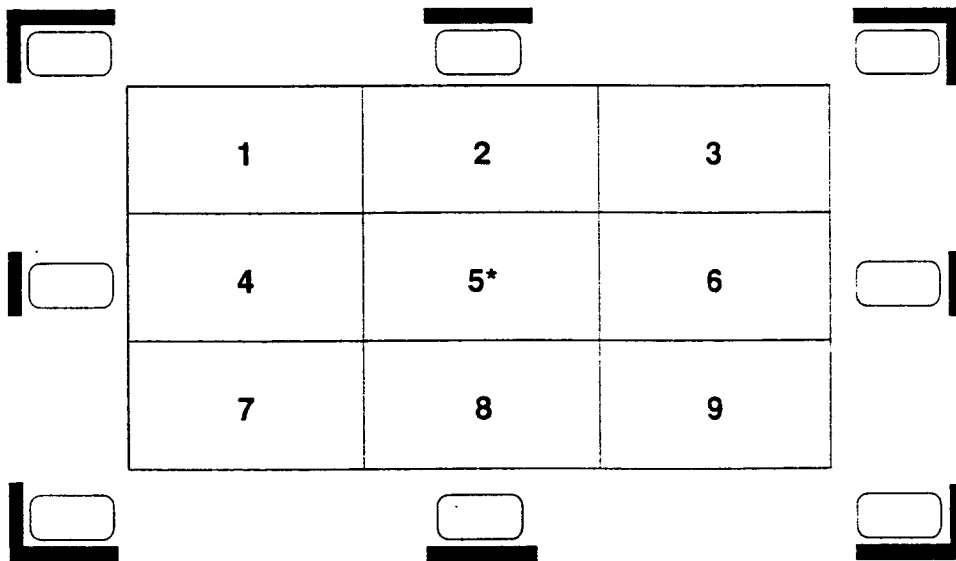

FIGURE D-1.
- STEP 1. Divide the white field pattern into 9 zones. Refer to Figure D-1. Note the area selection keys and the affected zone.
- STEP 5. GREEN ONLY! Measure and record the readings of each zone indicated in Figure D-1.
- STEP 6. Set zone 5 (Figure D-1) to the lowest reading (recorded above), with the [CONT] button.